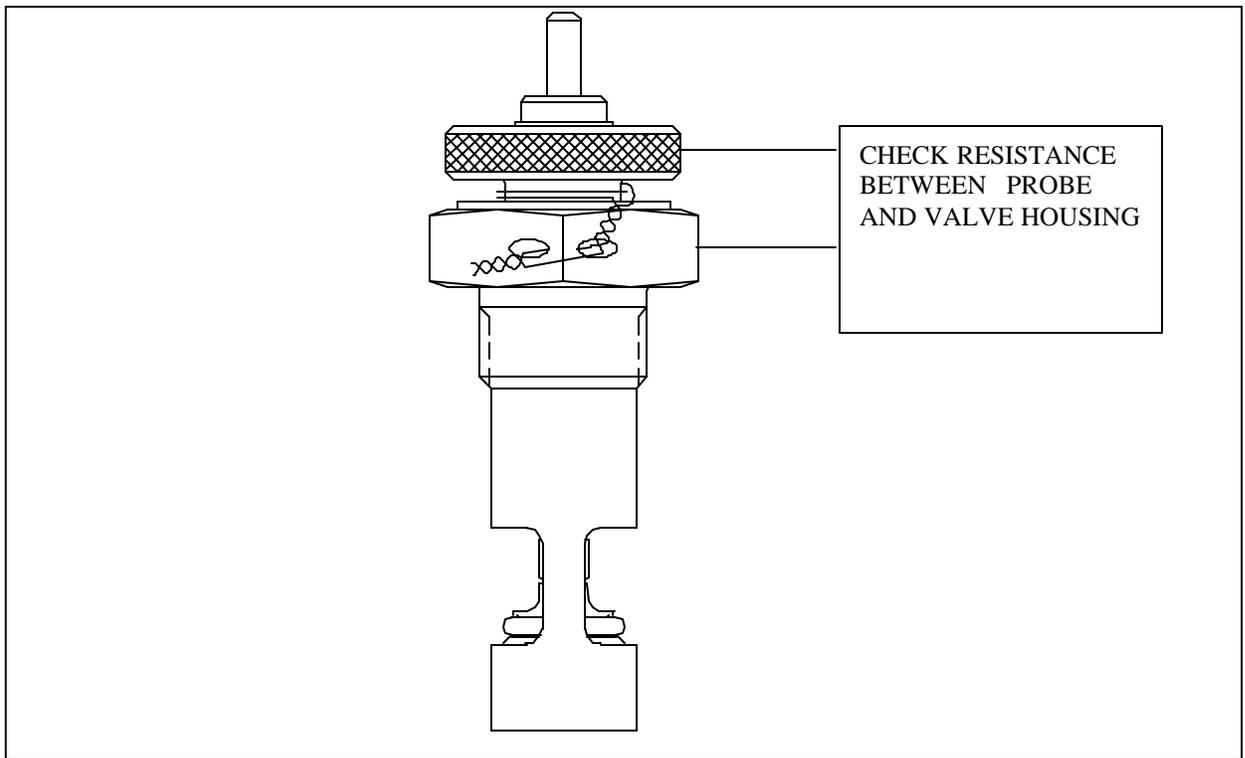

FIGURE 4B
- 2.4. Slide one end of lockwire through the lockwire hole. Continue twisting two ends together to complete the lockwiring. (See Figure 4B.)
- 2.5. Check repair by using an ohmmeter to check resistance between the chip detector probe and the valve housing. Resistance should be 1 ohm maximum. (See Figure 4B.)